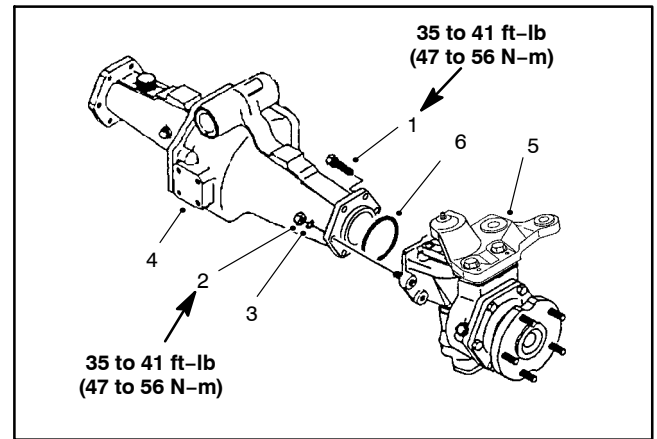

Figure 13
1. Remove the mounting screws, nuts and lock washers. Remove the bevel gear case/axle case assembly and O-ring from the axle support (Fig. 13).